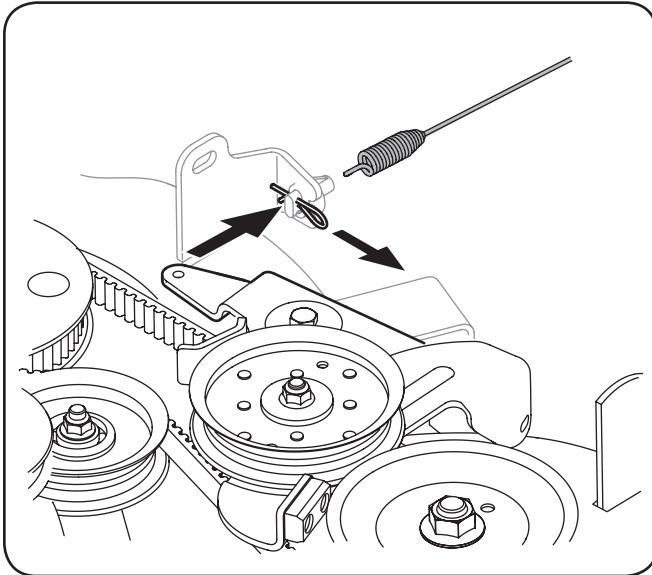

Figure 7-4
13. Pull the click pin out and unhook the drive spring cable from the idler arm assembly, See Fig. 7-4.